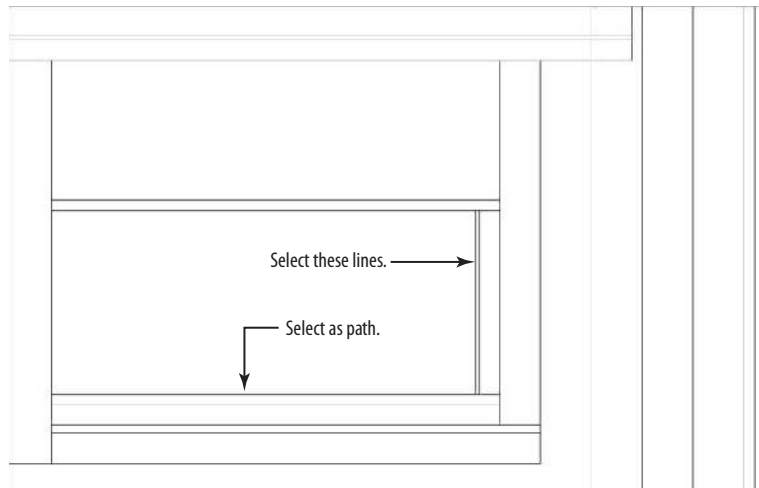

FIGURE 10.22: Draw the first railing post.
3. Trim these two lines back to the lower edge of the upper rail and to the upper edge of the lower rail (see Figure 10.22).
5. At the Select objects: prompt, select the two lines composing the vertical railing post, as shown earlier in Figure 10.22. Press ↵.
6. Define the direction in which you would like to copy the vertical railing by selecting the lower horizontal railing line at the Select path curve: prompt (also shown earlier in Figure 10.22).